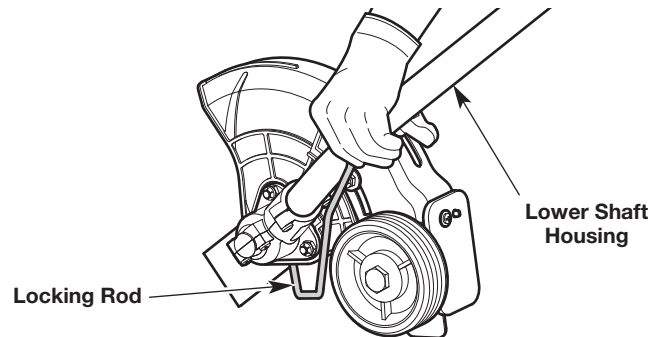

Fig. 24
2. Keep the locking rod in place by holding it next to the lower shaft housing (Fig. 24).
5. Keep the locking rod in place by holding it next to the shaft housing (Fig. 24).